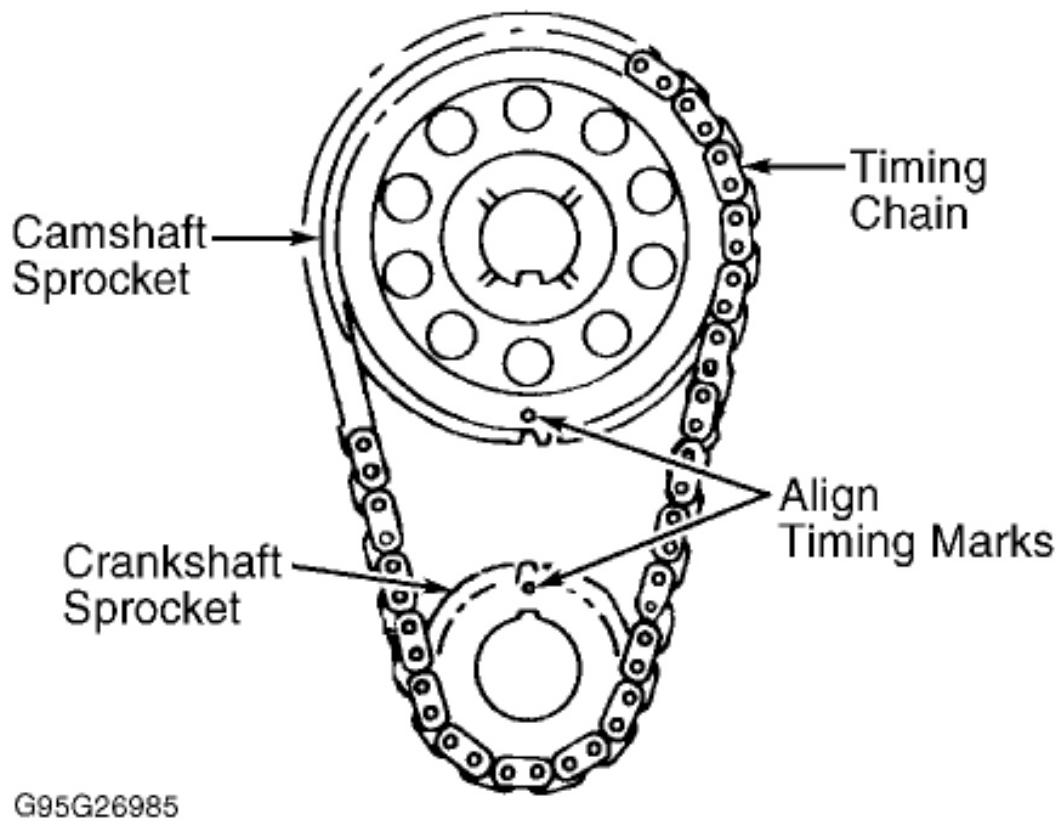

Fig. 7: Aligning Sprocket Timing Marks
1. Remove timing chain cover. See **TIMING CHAIN COVER** . Turn crankshaft clockwise until camshaft sprocket and crankshaft sprocket timing marks are aligned. See **Fig. 7** . Mark top link on timing chain.
Disconnect negative battery cable. Remove timing chain cover. See **TIMING CHAIN COVER** . Position No. 1 piston on TDC of compression stroke. See **Fig. 7** . Check alignment of camshaft and crankshaft sprocket timing marks. Check timing chain deflection. See **INSPECTION** . Remove camshaft sprocket retaining bolt and washer. Slide sprockets and timing chain forward and remove as an assembly.
1. Ensure No. 1 piston is still at TDC of compression stroke. Assemble timing chain and sprockets so sprocket timing marks are aligned. See **Fig. 7** . Install chain and sprockets as an assembly. Lubricate timing chain and sprockets with engine oil.